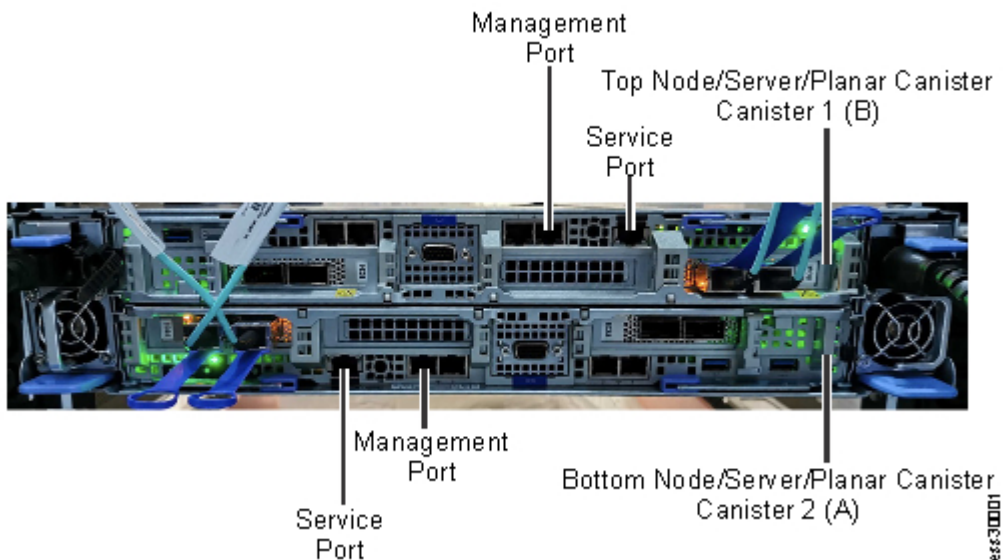

Figure 36. Rear view of ESS 3000
- For each ESS 3000 canister in the flow (see Chapter 4, “Installing,” on page 41), connect your laptop point-to-point to the Service Port as shown in the Figure 36 on page 72. You need to use this port to access each canister, perform hardware checks, and set the management IP address.
- Default physical ESS 3000 ports (per canister) (see Figure 36 on page 72)
- Port with a gear symbol (see Figure 36 on page 72) – Service/Technician port. The SSR will connect a laptop to this port when performing the ESS 3000 tasks. You need to move the cable when working on a different canister (two per ESS 3000 unit)